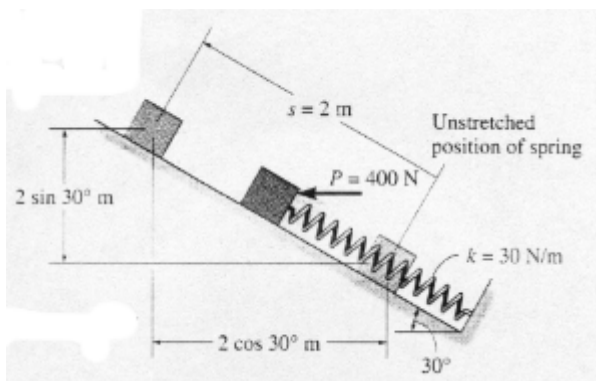

Figure 4 Block spring system
4. The 10 kg block shown Figure 4 rests on the smooth incline. If the spring originally is unstretched, determine the total work done by all the forces acting on the block when a horizontal force $P = 400 \text{ N}$ pushes the block up the plane $s = 2 \text{ m}$. (20%)